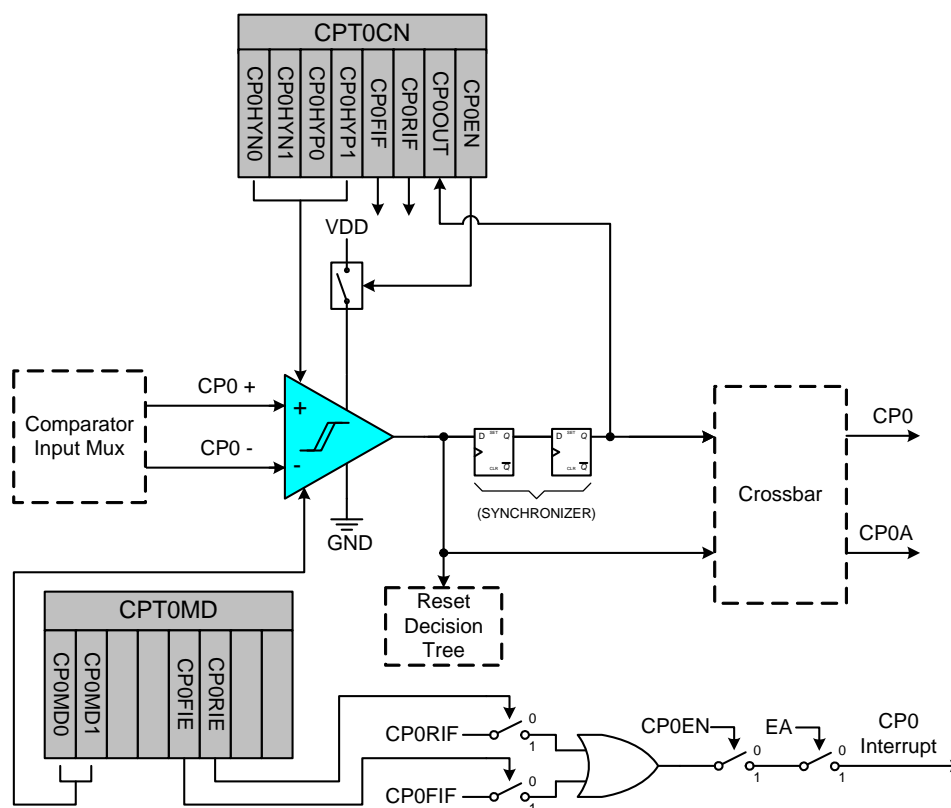
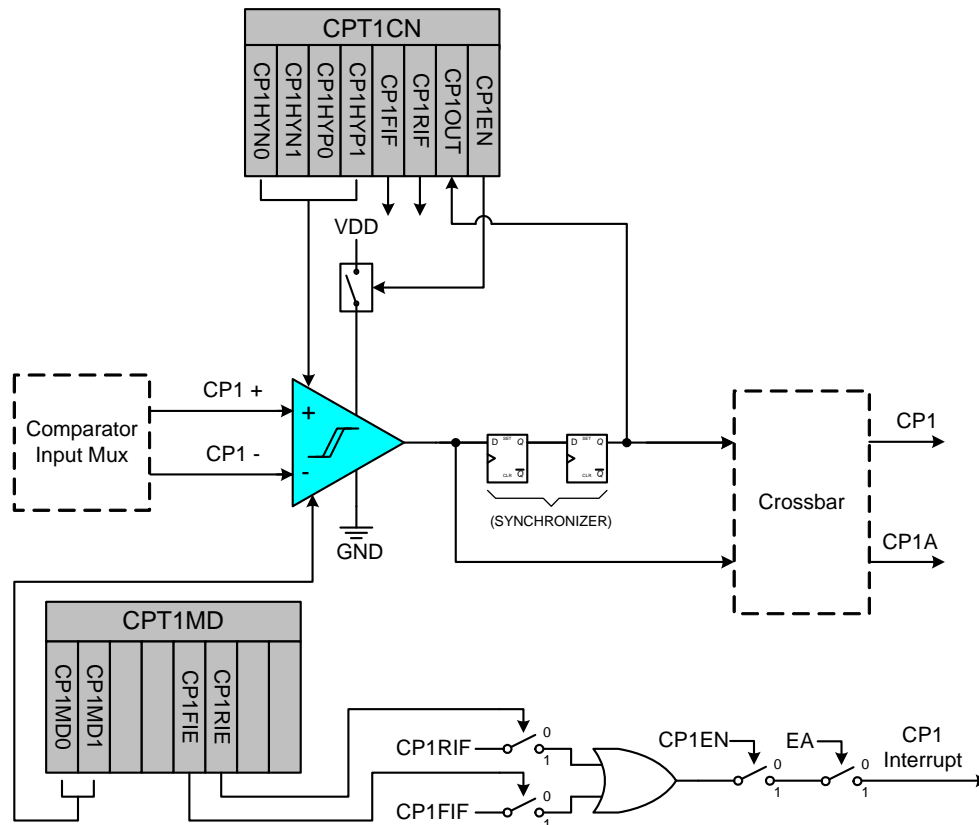

Figure 14.1. Comparator0 Functional Block Diagram
Figure 14.2. Comparator1 Functional Block Diagram
C8051T620/1/6/7 & C8051T320/1/2/3 devices include two on-chip programmable voltage comparators: Comparator0 is shown in Figure 14.1, Comparator1 is shown in Figure 14.2. The two comparators operate identically with the following exceptions: (1) Their input selections differ as described in Section “14.1. Comparator Multiplexers” on page 84; (2) Comparator0 can be used as a reset source.